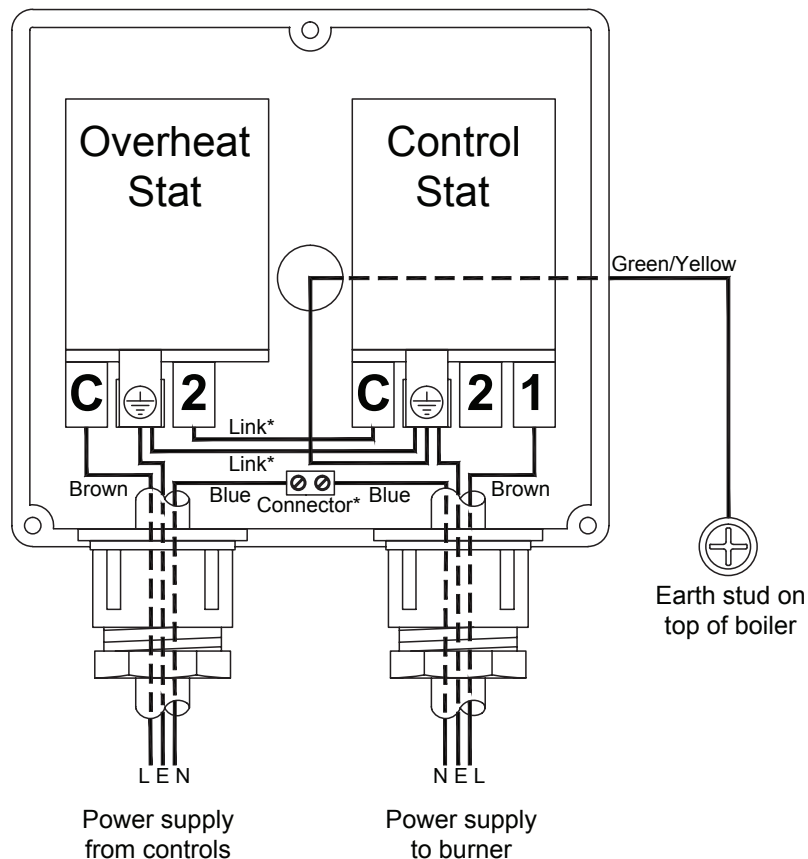

Figure 8-3: Dual thermostat wiring diagram
Refer to Figure 8-3 for the dual thermostat wiring diagram.
4. Withdraw the cable support bushes from the cover. Pass the burner supply cable through one of the bushes and connect it to the boiler (control) thermostat (refer to Figure 8-3) as follows:
5. Pass a switched mains power supply through the other cable support bush and connect it to the overheat thermostat (refer to Figure 8-3) as follows:
- An earth link (not supplied) must be fitted between the earth terminals of the overheat and control thermostats both marked \perp . Refer to Figure 8-3.
- A link (not supplied) must be fitted between terminal 2 on the overheat thermostat and terminal C of the control thermostat. Refer to Figure 8-3.